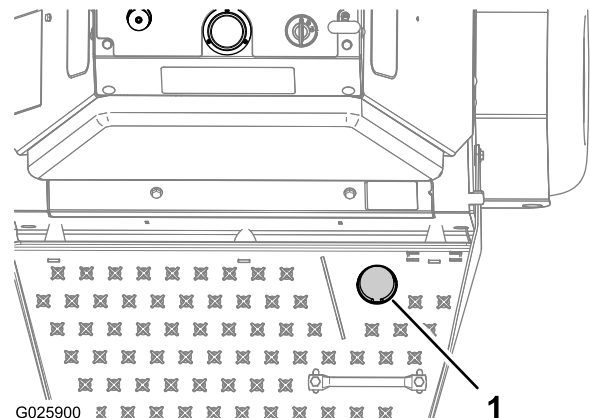

Figure 16
2. Step on the tine-elevation switch to lower the tines (Figure 16).
3. Stand on the switch and move the traction-control levers forward to aerate (Figure 16); refer to Traction-Control Levers \(page 14\).
To raise the tines, remove your foot from the tine-elevation switch (Figure 16).